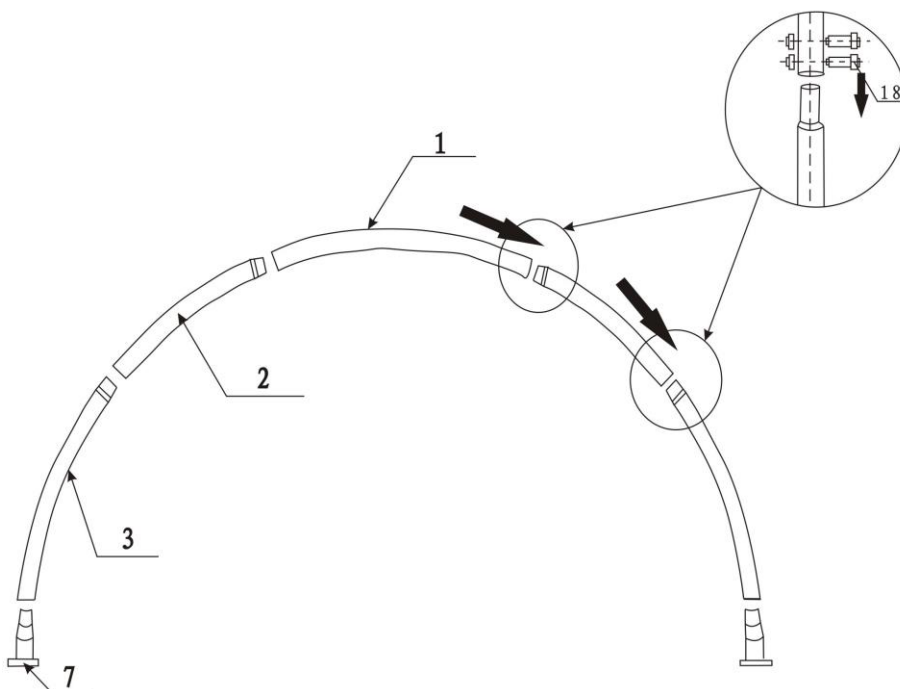

Figure 4
1. As Figure 4 shown find Roof Bent Tube (No.1), Middle Bent Tube (No. 2) and Lower Bent Tube (No. 3) and assemble them with Bolt M8x70 (No.18) DO NOT installs the bolts on the top of the truss where the fabric will rest.